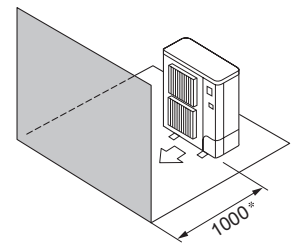

Fig. 2-6
- ④ Obstacles at front (Fig. 2-6)